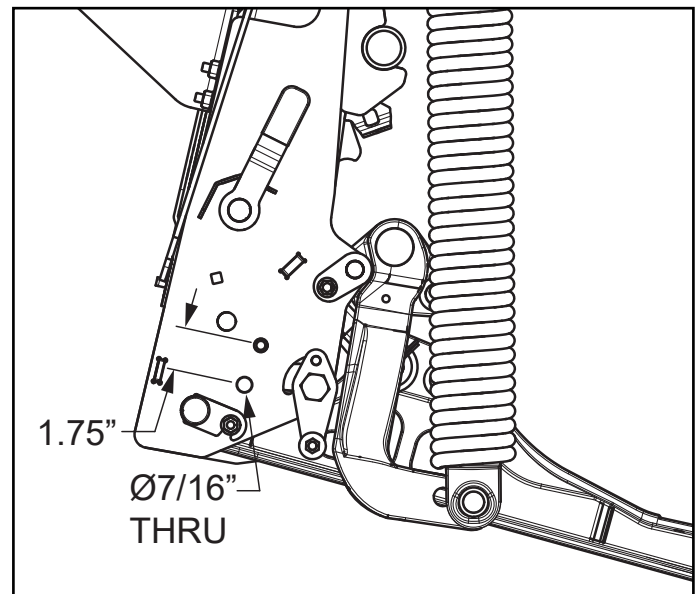

Figure 2: Support bracket OEM hole location
3. Drilling a $\text{\O}7/16$ " hole using the dimensions in Figure 2.